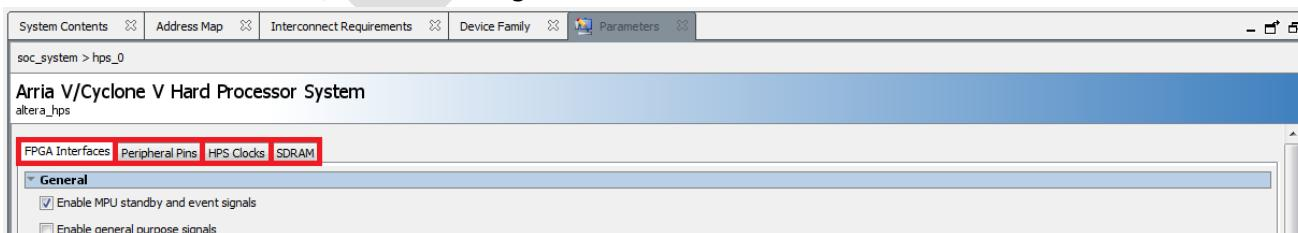

Figure 8-4. HPS Component Parameters
- Open the HPS’ parameters and have a look around. There are 4 tabs that control various aspects of the HPS’ behaviour, as shown on Figure 8-4.